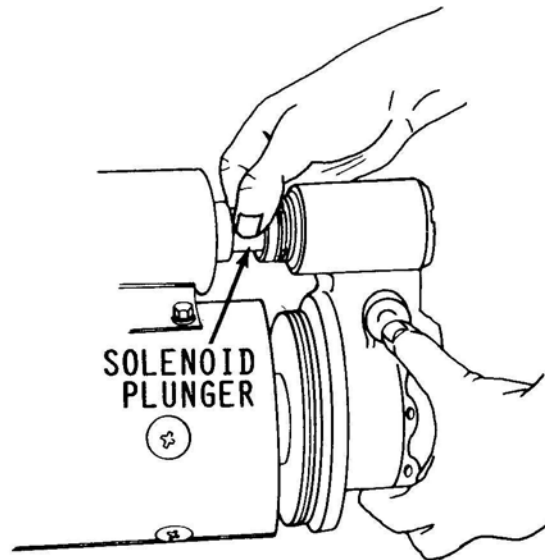

Figure 2-8. Access to Solenoid Plunger
- 9) **Separate lever housing with drive end housing with assembled parts (fig. 2-8) to check for suspected binding in shift lever or drive clutch assembly by manually moving solenoid plunger.**